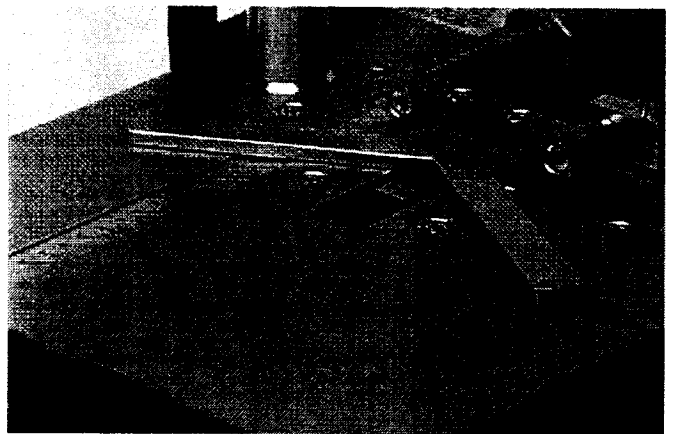

Figure 3
- Special fences for octagons (see fig. 3)